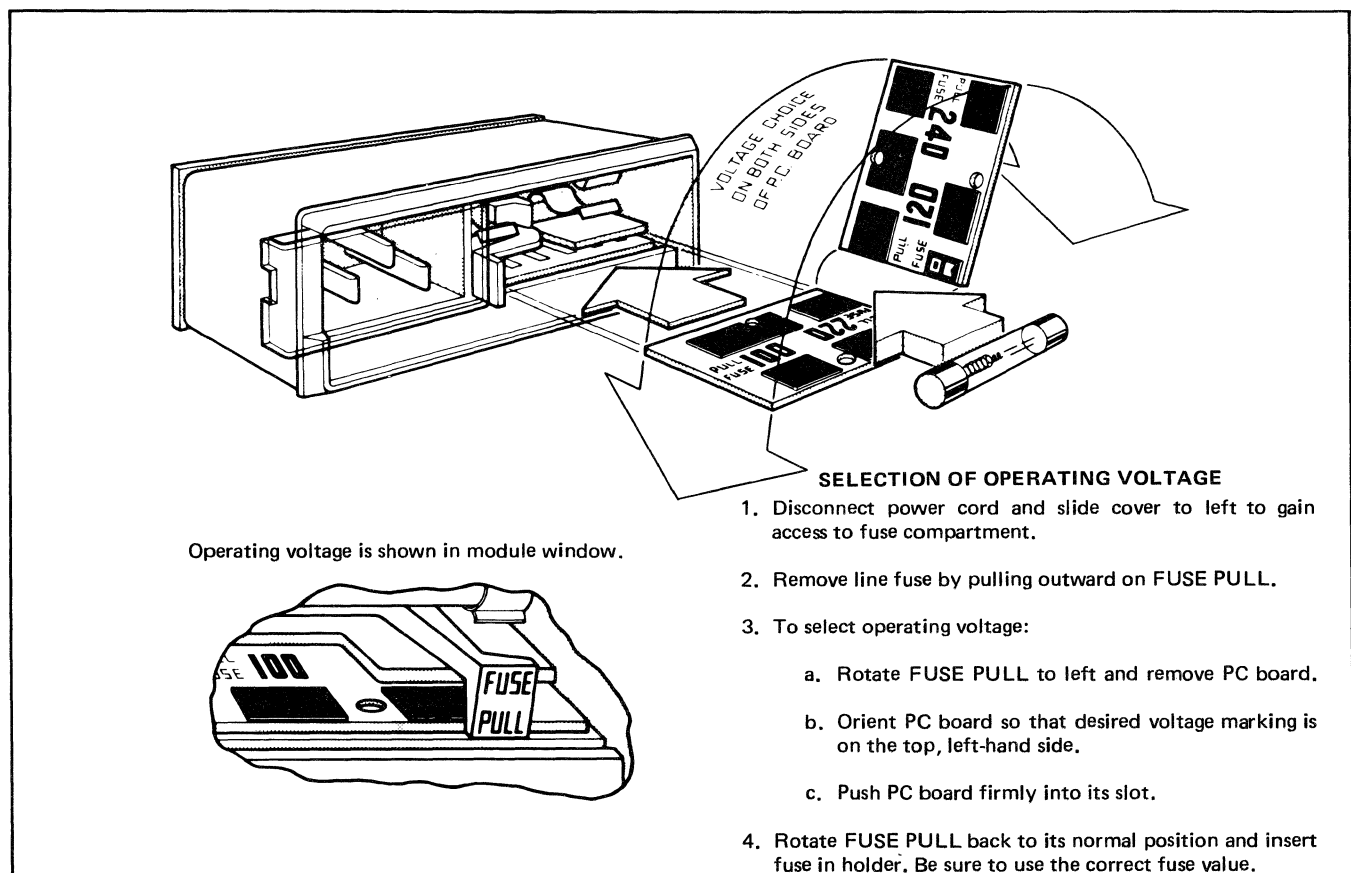

Figure 3-33. Voltage Selection.
b. Refer to Figure 3-33 and set the 3580A for the line voltage to be used (100 V, 120 V, 220 V or 240 V). Line voltage must be within + 5% to - 10% of voltage setting.